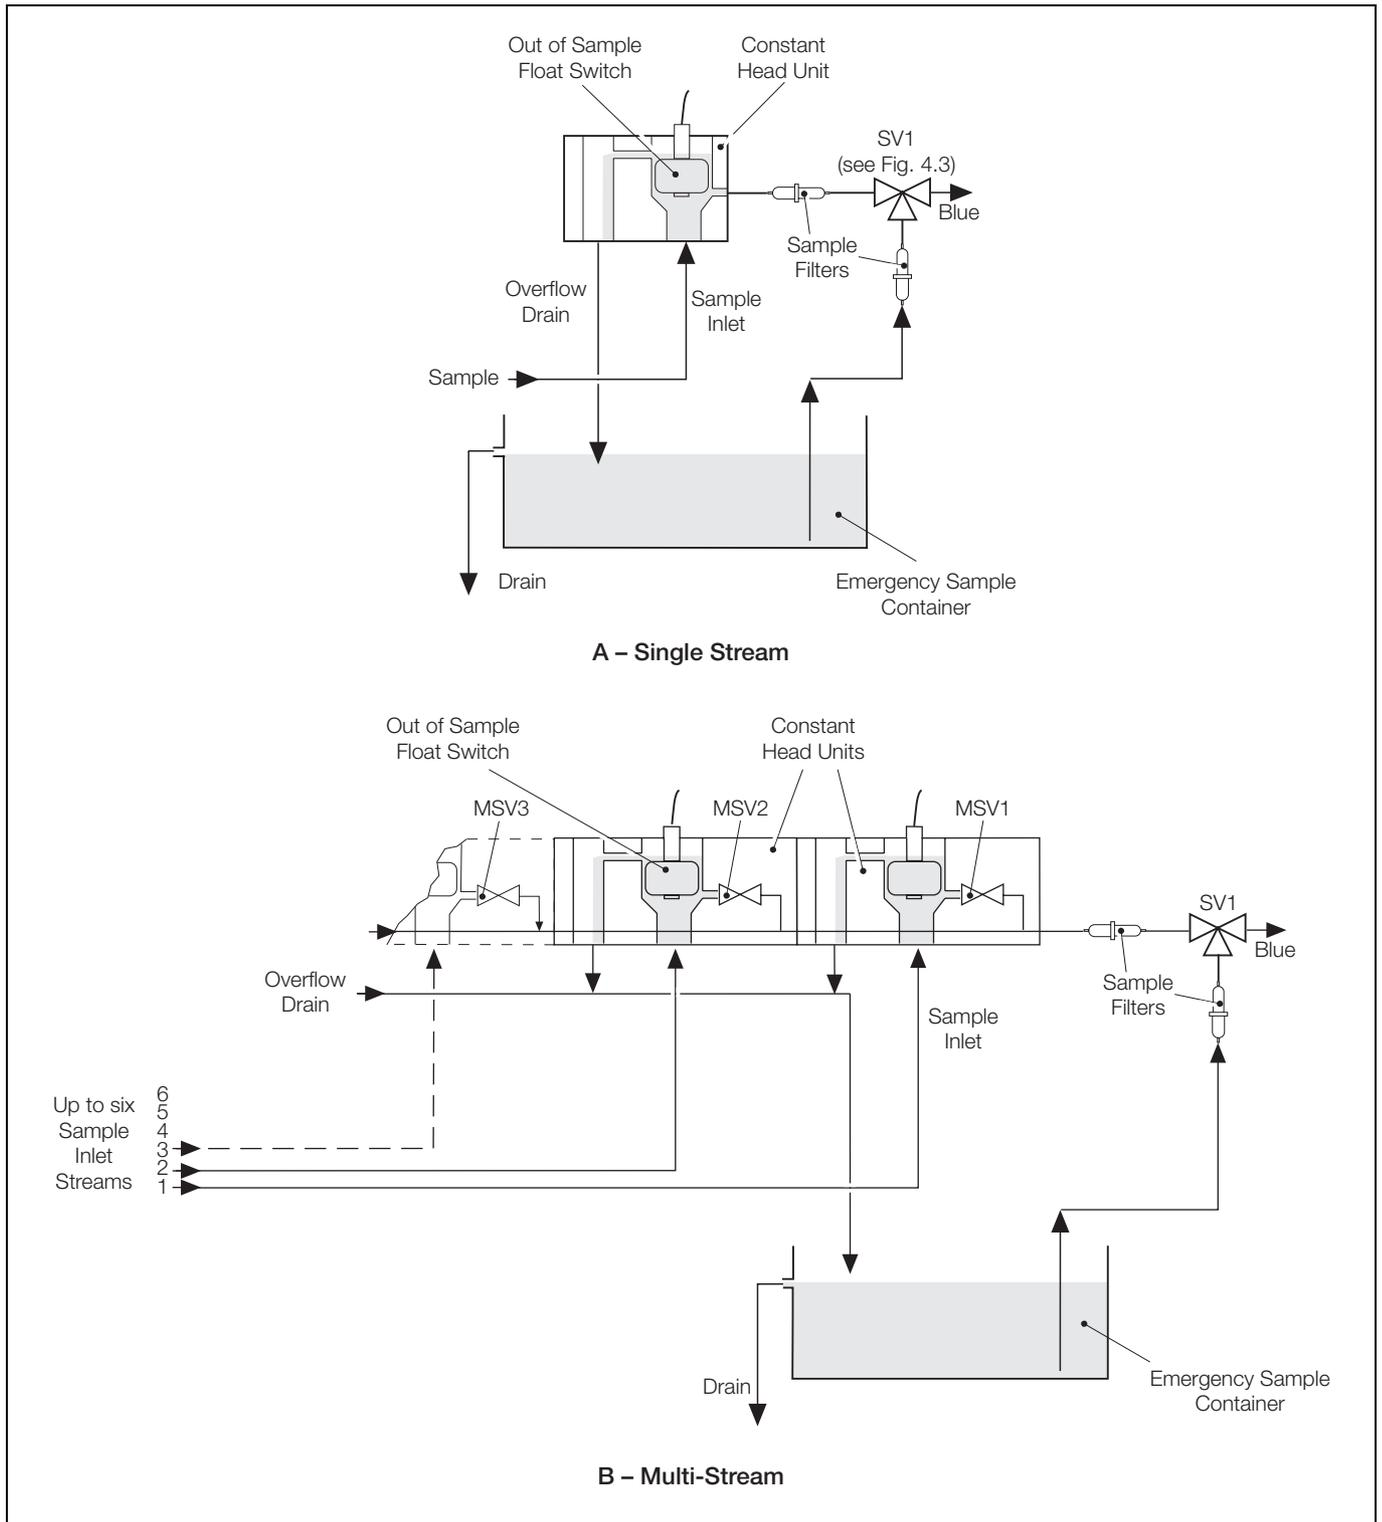

Fig. 4.2 Flow Schematic – Sample Inlet
Note. A suitable 40 litre emergency sample container must be provided by the user. A suggested arrangement is shown in Fig. 4.2. Alternatively, a constant, independent source may be used.
4.2 General Operation – Figs 4.2 and 4.3